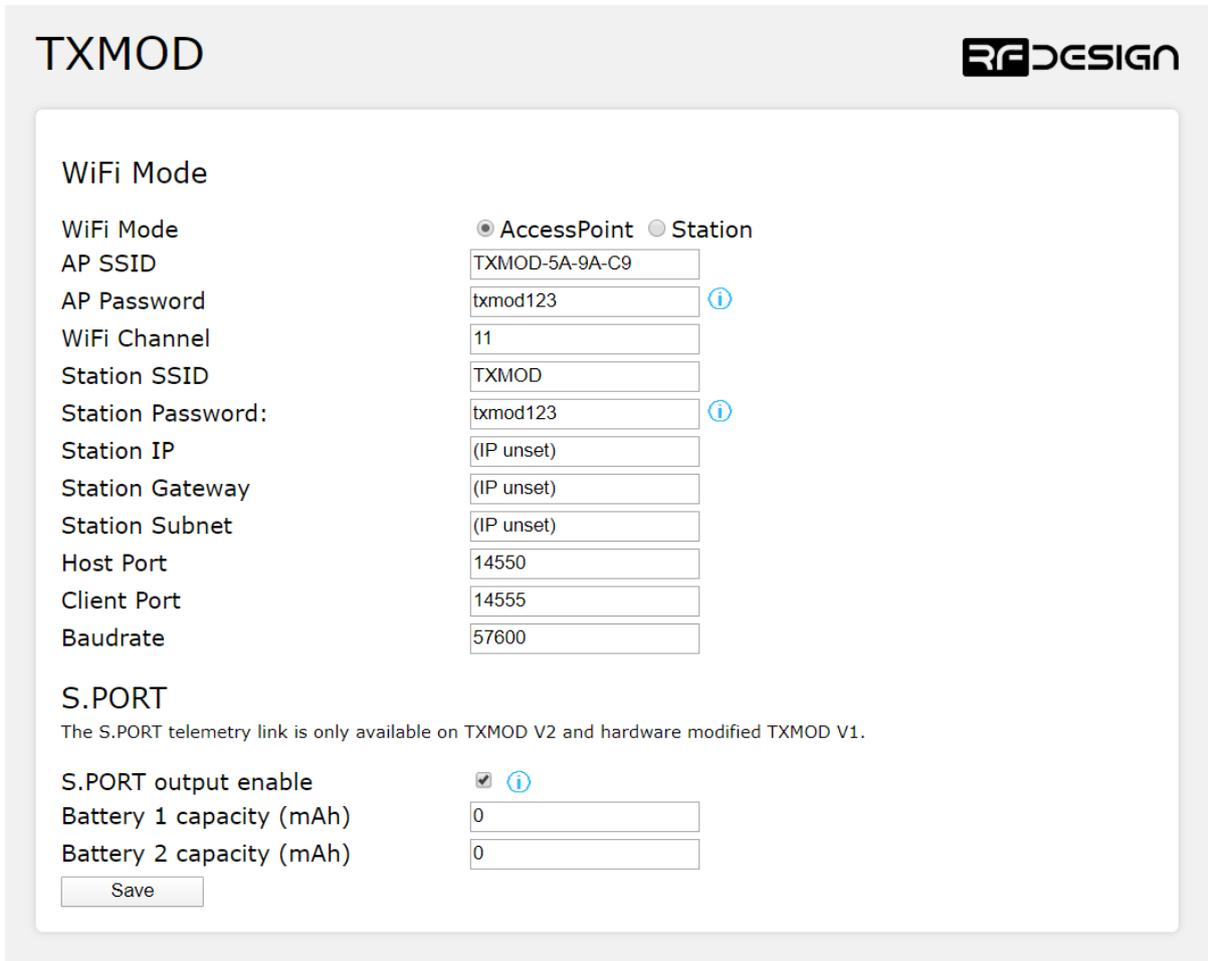

Figure 9 -WiFi settings configuration page on firmware version 1.4. Some of the options will not be available on older firmware versions.
- Click on 'Wi-Fi/Network Setup' or 'General settings' – depending on what firmware version you are using, to access the Wi-Fi setup interface of figure 9.